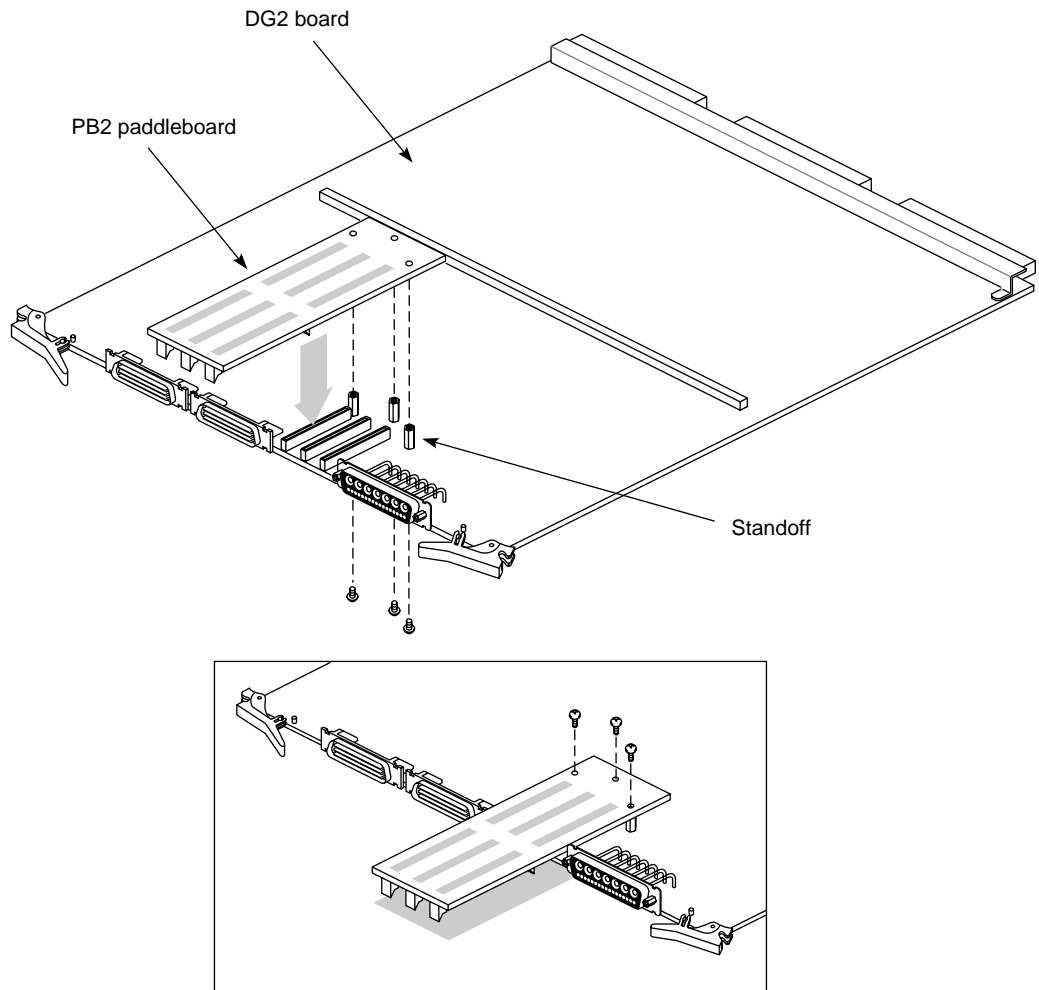

Figure 3-4 DG2 Board with PB2 Paddleboard
3. Install three nylon spacers (p/n 7430100) into the connector side of the PB2, as shown in Figure 3-4. Make sure you have the PB2 paddleboard (p/n 030-0328-001), not the PB3 paddleboard.
Figure 3-4 shows installation of the paddleboard onto the DG2 board.
2. Install three nylon spacers (p/n 7430100) into the connector side of the PB3 as you did for the PB2, as shown in Figure 3-4.